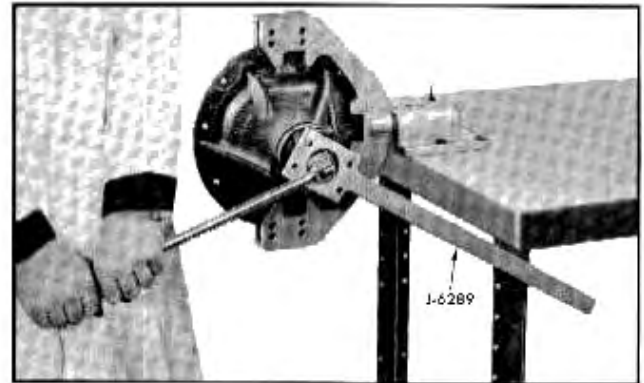

Fig. 4-26 Holding Companion Flange With Holding Tool J-6289
5. Remove drive pinion nut and washer using heavy duty socket and Holding Tool J-6289 (Fig. 4-26).